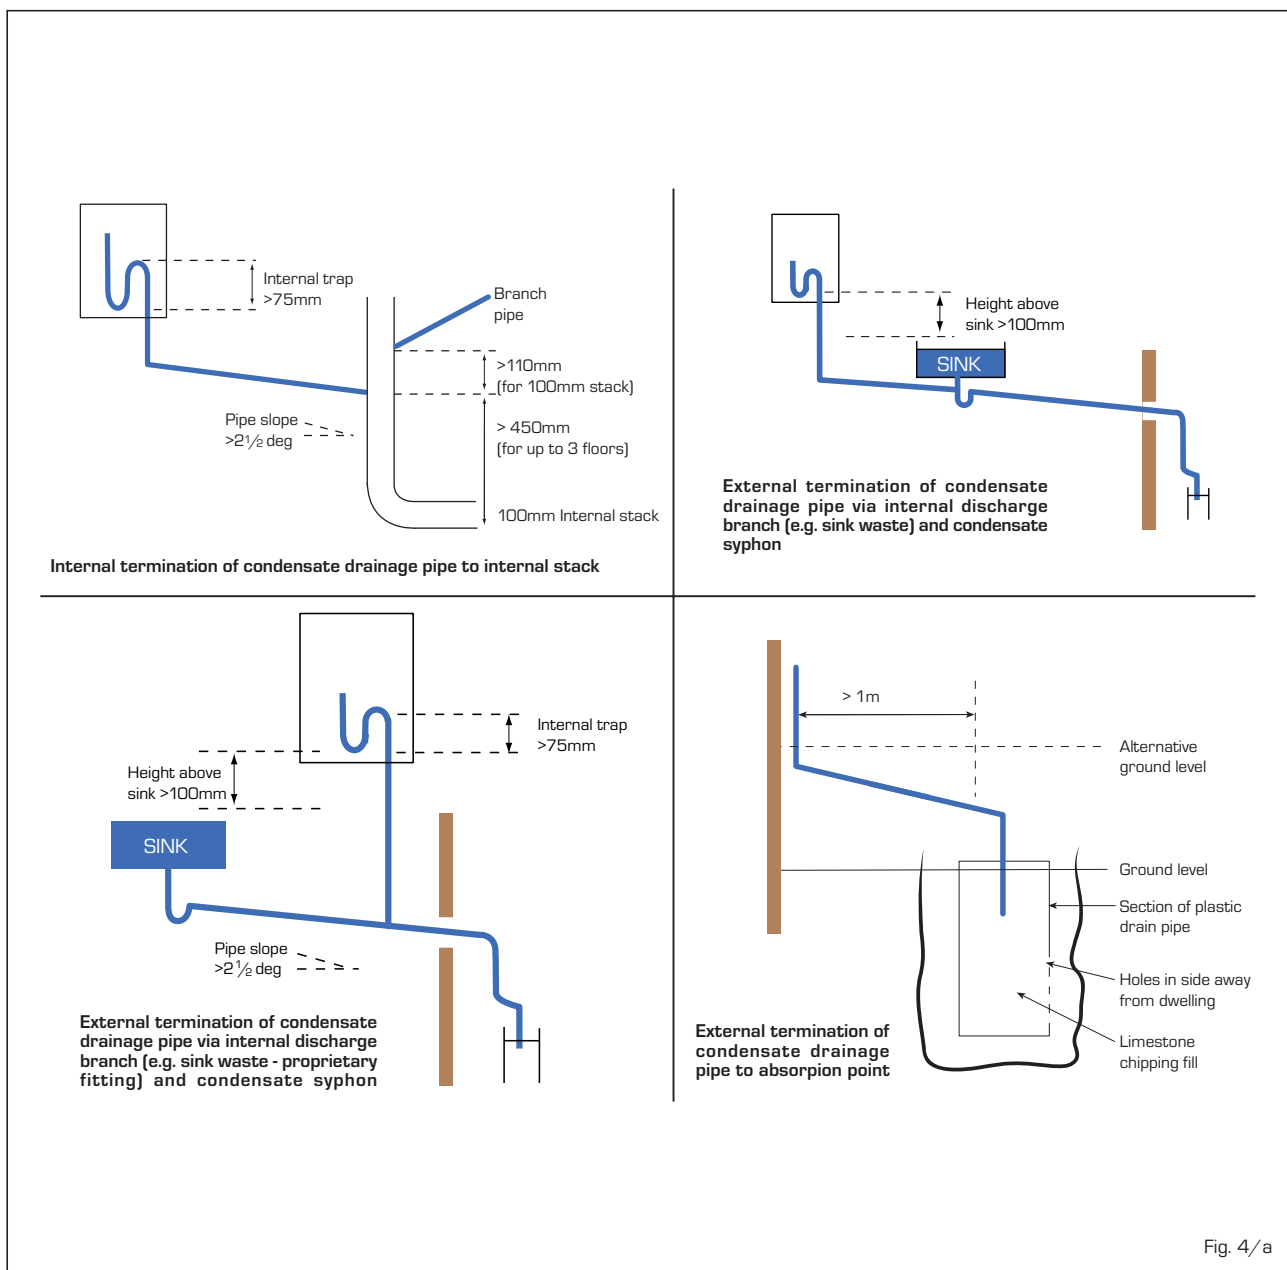

Fig. 4/a
c) The appliance is equipped with an internal by-pass that operates with system heads (H) greater than 3 m. The maximum flow through the by-pass is about 300 l/h. If thermostatic radiator valves are to be installed, at least one radiator should be without a thermostatic valve (usually the bathroom radiator).
d) A sealed system must only be filled by a competent person using one of the approved methods shown in fig. 4/b. The system design should incorporate the connections appropriate to one of these methods.